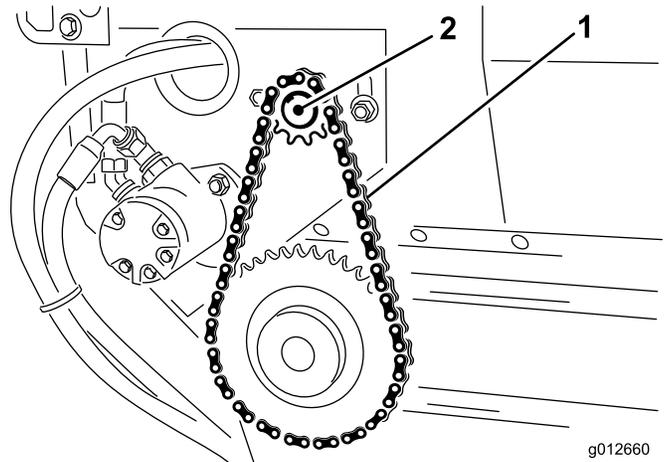

Figure 15
2. Loosen bolts and nuts securing motor and sprocket assembly to the main frame (Figure 15).